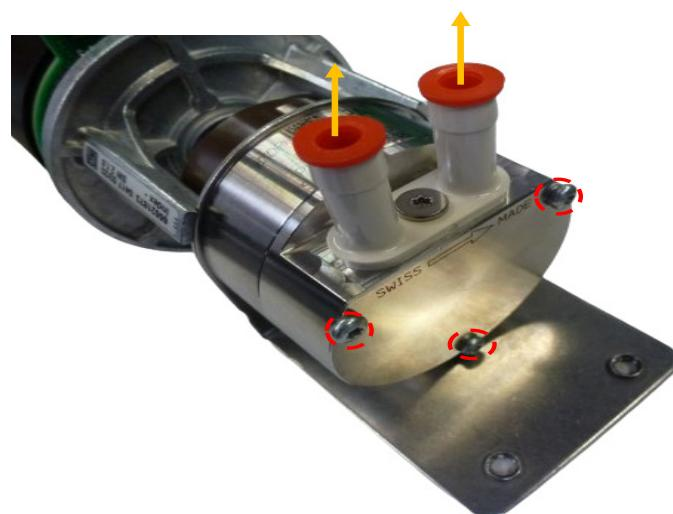

Fig. 3-25 Assembly group gear pump
13. Join gear pump and motor (new 3 screws, see Fig. 3-25).